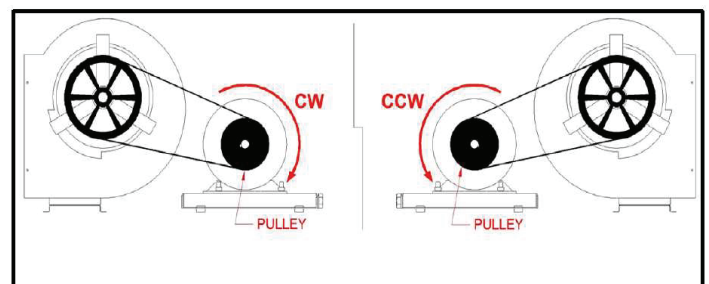

FIGURE 11
9. If the blower motors start, check for the proper rotation of each motor by determining air is being exhausted through the exhaust hoods. The correct motor forward direction is as shown in Figure 11, when facing the motor from the pulley side.